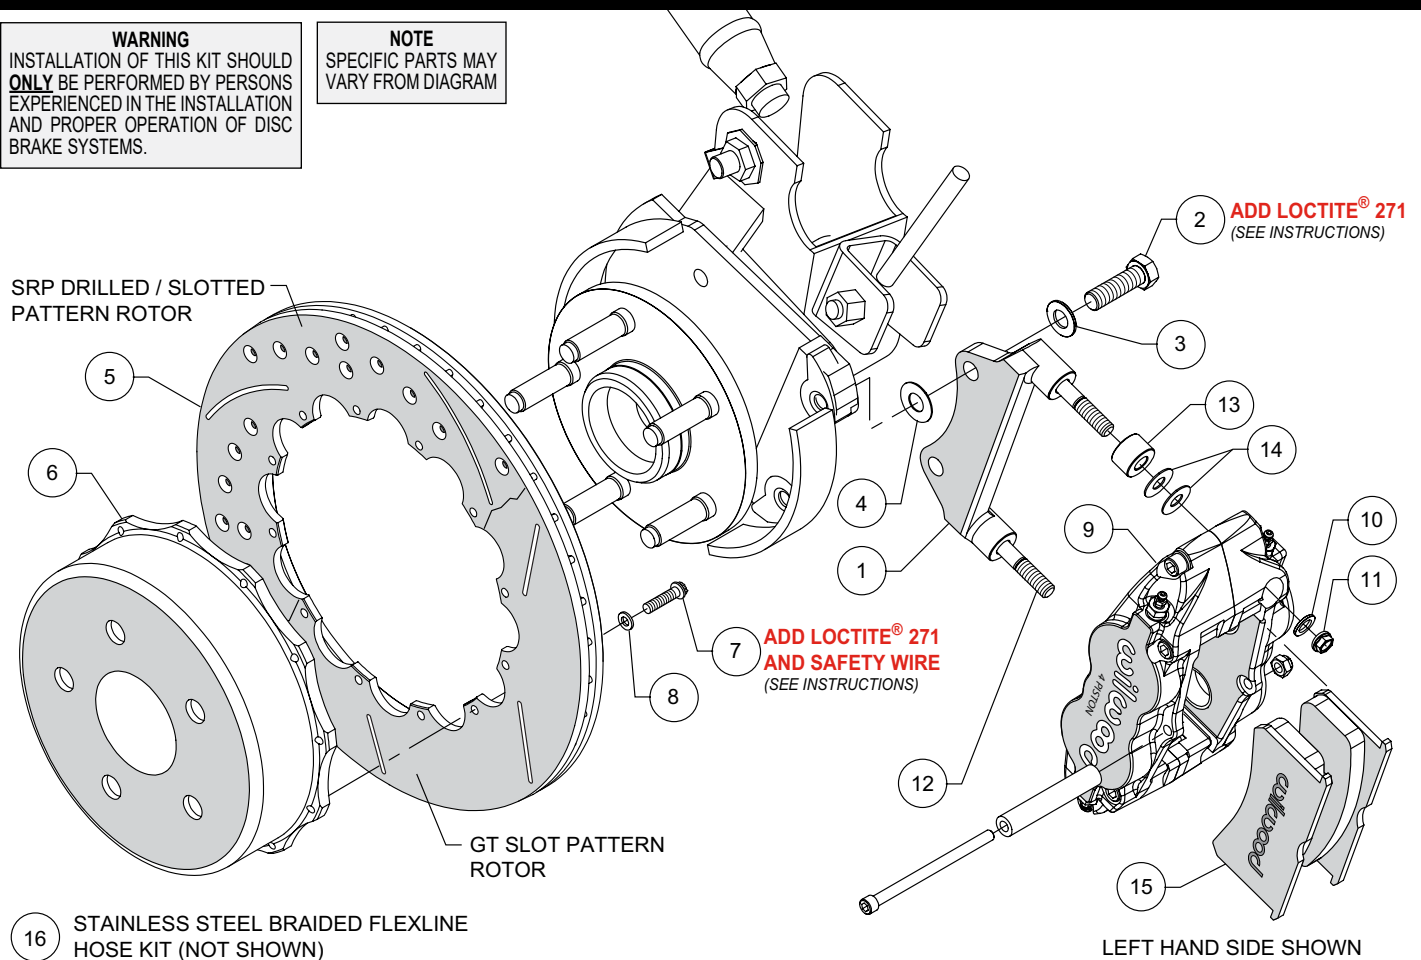
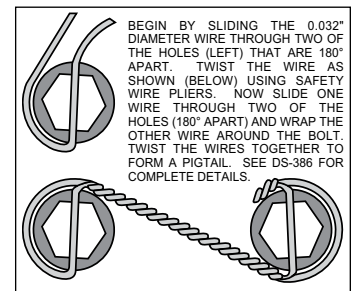

Figure 1. Typical Installation Configuration
Figure 3. Safety Wire Diagram
**Assembly Instructions** (numbers in parenthesis refer to the parts list and Figure 1 on the preceding pages):
- The caliper mount bracket (1) should initially be installed with clean, dry threads on the mounting bolts. Orient the bracket as shown in Figure 1, and install using mount bolts (2) and washers (3). Initially place one .033" thick shim (4) on each bolt between the bracket and upright, Figure 1. Temporarily tighten the mounting bolts. **NOTE:** The bracket must fit squarely against the mount bosses on the upright. Inspect for interference from casting irregularities, machining ridges, burrs, etc. Later, after the caliper alignment has been checked, the mount bolts will be secured using red *Loctite*® 271.
- Orient the rotor (5) and the hat (6) as shown in Figure 1 and Photo 2. Attach rotor to hat using bolts (7) and washers (8). Apply red *Loctite*® 271 to the bolt threads and torque to 140 **in-lb** using a criss-cross pattern. The bolts must be safety wired using standard 0.032 inch diameter stainless steel safety wire as shown in Figure 3. Please refer to Wilwood's data sheet DS-386 (available at [www.wilwood.com/Pdf/DataSheets/ds386.pdf](http://www.wilwood.com/Pdf/DataSheets/ds386.pdf)) for complete safety wire installation instructions.
- Initially place one spacer (13) and two .035" thick shims (14) on each stud (12) as shown in Figure 1 and Photo 4. Mount the caliper (9) onto the bracket (1) using lock nuts (11) and washers (10), Figure 1. Temporarily tighten the lock nuts and view the rotor through the top opening of the caliper. The rotor should be centered in the caliper, Photo 5. If not, adjust by adding or subtracting shims (4) between the bracket and the mounting bosses. Always use the same amount of shims on each of the two mounting bolts. Once the caliper alignment is correct, remove the bracket mounting bolts one at a time, apply red *Loctite*® 271 to the threads, and torque to 60 ft-lb.